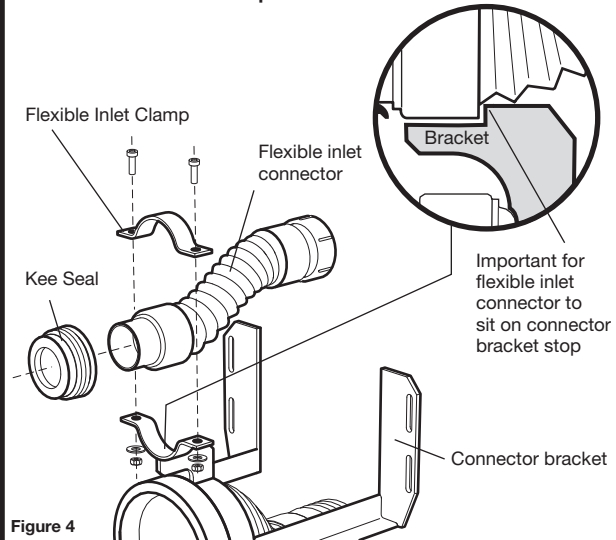
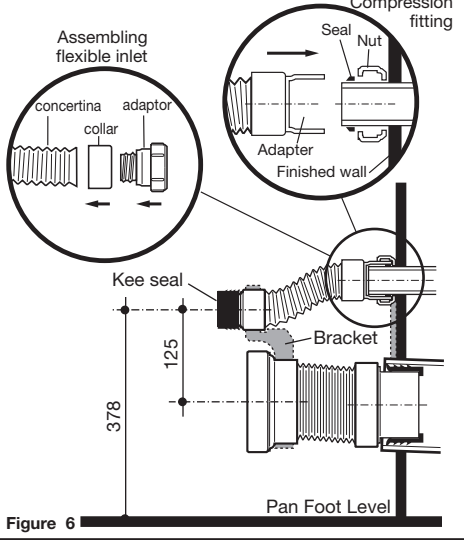
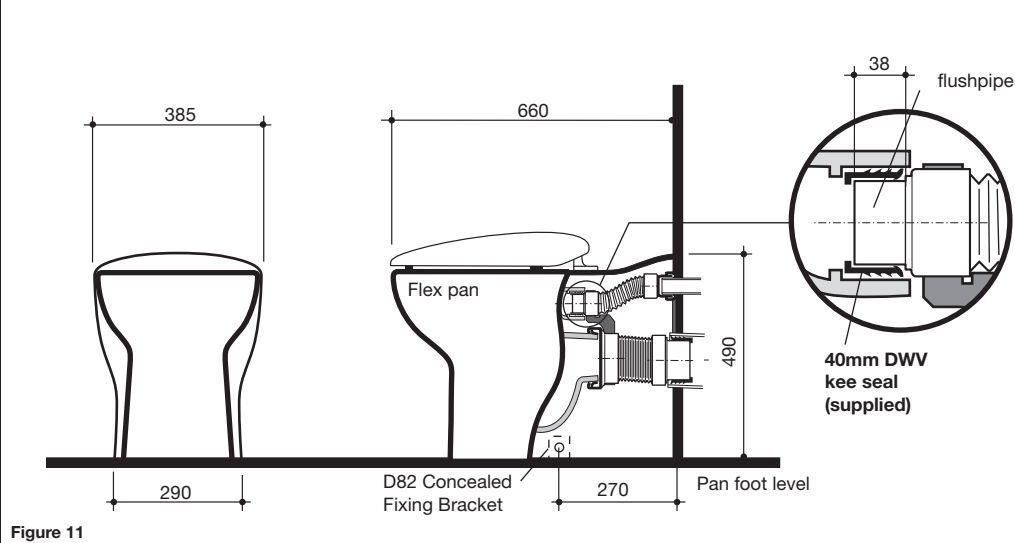

Figure 4
Figure 6
Figure 11
- 5- Assemble flexible inlet by expanding the concertina. Place collar on the inlet end, screw adaptor piece into concertina until it tightens, see **Fig. 6**. Do not over tighten. Ensure flushpipe is cut to length 38mm, see **Fig. 11**. To replace supplied flexible inlet connector, loosen the bolts and nuts to open up the clamp. See **Fig. 4**. Remove supplied inlet connector and replace with appropriate connector. Important to secure connector by sitting on the bracket stop. Tighten bolts and nuts to close the clamp.
- 7- Connect the flexible inlet adapter to the existing flush pipe as shown on **Fig.6**.
pan foot level. See **Fig. 6**. Adjust bracket height if needed to match pan and tighten fixings. Lubricate kee seal and rubber seal with soap solution to aid with pan inlet and outlet connection.